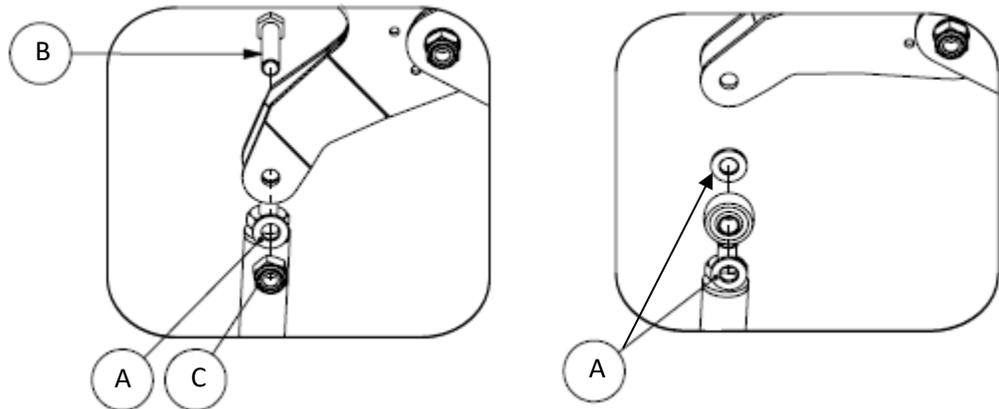

Figure 11: Aileron pushrod -to-bellcrank connection.
- Tighten the lock-nut on the bolt through the aileron pushrod rod-end bearing sufficiently, observe the correct placement of washers (refer to Figure 11) and note that the bolt is installed with its head facing the wing upper surface.